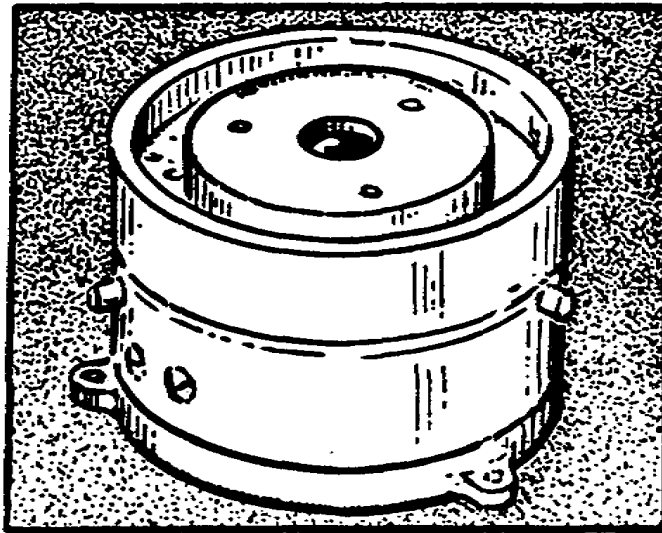

Figure 1-16. Video record/playback head
a. Video record/playback head. An electromagnetic head (fig 1-16) of a refined design, capable of responding to the high frequencies present in the video signal being recorded. Also, it is made of the best material to withstand the wear encountered in high-speed recording and playback.